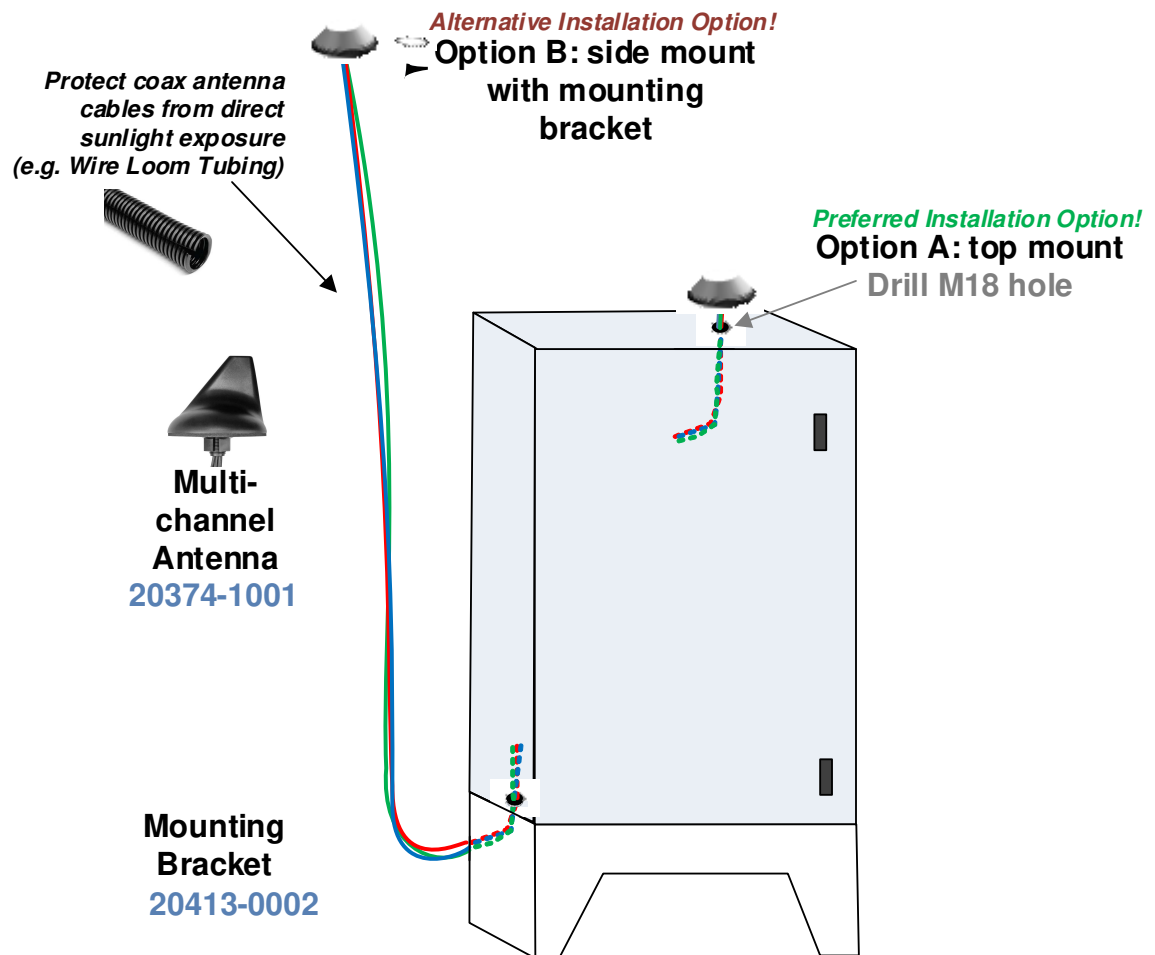

Figure 1: Multi-Channel Antenna mounted to panel
- (1) The EDR needs 3 antenna connection. Install the multi-channel antenna either
- a. *preferred solution!* on top of the panel by drilling a 18mm hole through the panel and installing the antenna through the hole [see Figure 1 Option B], or
- b. *alternative solution:* on a nearby mounting pole using the mounting bracket [see Figure 1 Option A]. **Important note:** the three coax cables of the antenna are not UV resistant and must be protected from permanent sunlight exposure to avoid material breakdown. For example, wire loom tubing can be added around the cables.